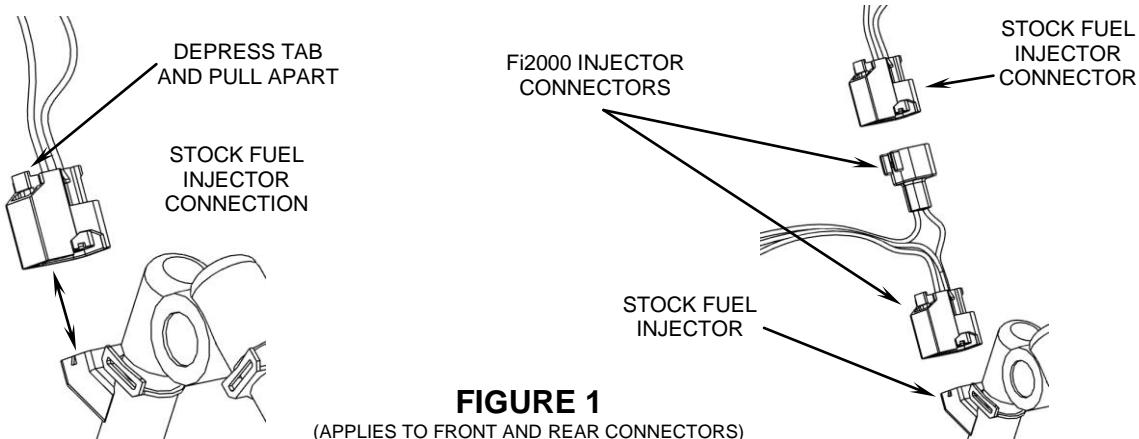

FIGURE 1
3. Under the gas tank locate the factory female connector on each fuel injector. Depress the clip on the connector and pull the connector free and move it out of the way. **Note:** A pair of needle nose pliers and a long flat blade screwdriver helps with this job. See Figure 1.
5. Attach the Fi2000 module's forward female injector plug, to the front injector. Take the original female H.D. connector and insert the corresponding Fi2000 male connector into it. See Figure 1.
6. Attach the Fi2000 module's shorter rear female injector plug, onto the rear injector. Then take the original female H.D. connector and insert the corresponding male Fi2000 connector into it. See Figure 1. Make sure all connectors are routed and tucked away to prevent chaffing on the engine.